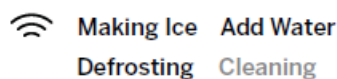

Figure 4
7. Water will begin circulating and the 'Cleaning' indicator will light up on the left-hand side of the unit to confirm the unit is now in cleaning process. See figure 4. After three minutes the water will stop and the 'Cleaning' indicator light will turn off. NOTE: Do not use soap to clean the water reservoir.